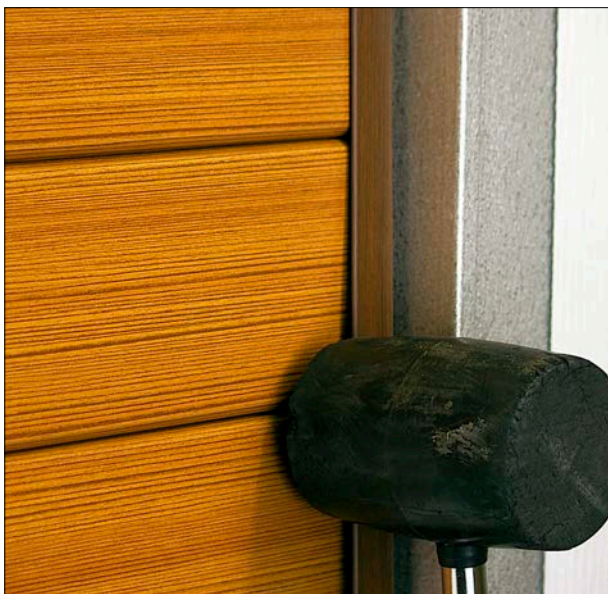

Fig.36
Step 3: Finish installation by installing the top cover of the two piece J (Fig.36).